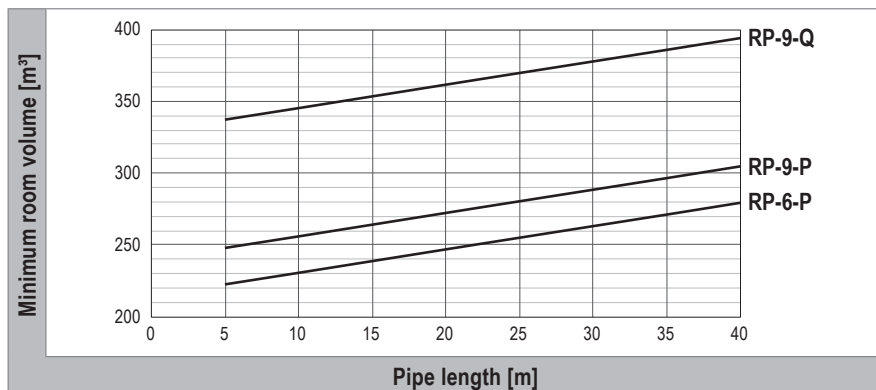

Fig. B3: Minimum room volume depending on the total refrigerant charge in accordance with EN 378
- The room volume corresponds to the minimum values shown in Fig. B3 meaning that the permissible QLMV value is not exceeded.